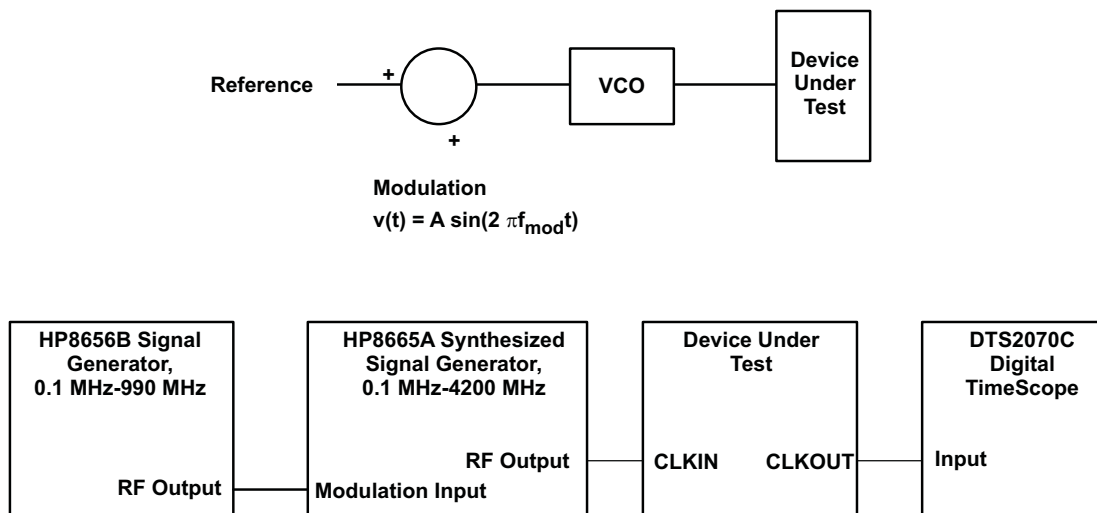

图 11. Output Clock Jitter Test Set Up
| $\Delta t_{c(o)}$ | Output clock cycle-to-cycle jitter (3)                                      | $t_C = 10$ ns; clean reference clock, see <a href="#">图 11</a>                        |                         | ±26                     |     | ps   |
|                   |                                                                                        | $t_C = 10$ ns with 0.05UI added noise modulated at 3 MHz, see <a href="#">图 11</a>    |                         | ±44                     |     |      |
|                   |                                                                                        | $t_C = 7.4$ ns; clean reference clock, see <a href="#">图 11</a>                       |                         | ±35                     |     |      |
|                   |                                                                                        | $t_C = 7.4$ ns with 0.05UI added noise modulated at 3 MHz, see <a href="#">图 11</a>   |                         | ±42                     |     |      |